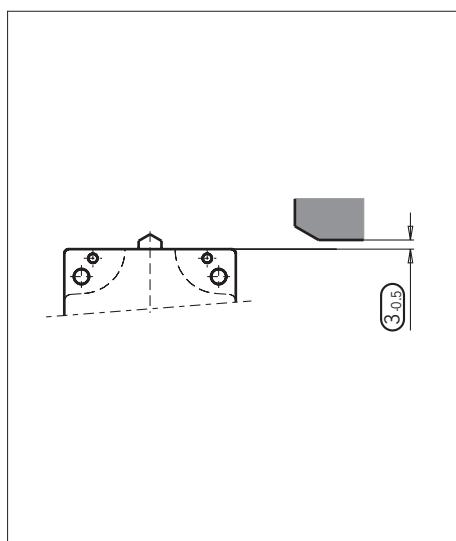

Bild 3: Montage SN...-508 und SN...-514 für Sicherheitschaltungskreise
- ▶ It is imperative that dimension  $(3 \text{--} 6)$  (distance from switch reference surface to trip dogs, see Fig. 3) is maintained in safety circuits to ensure safe contact opening.